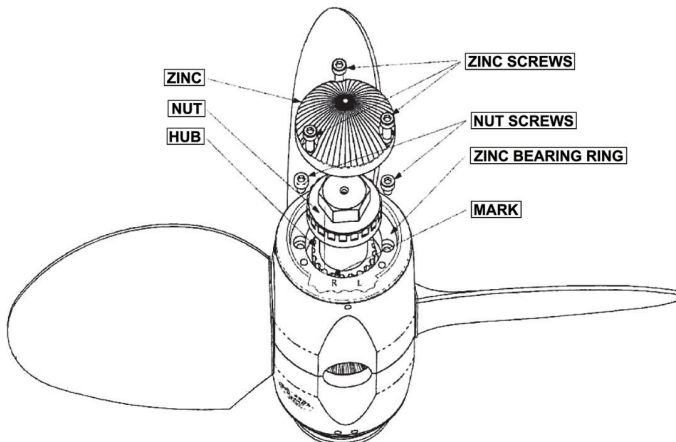

Fig. 5
- Then push the zinc bearing ring in its place again, making sure the “L” tooth aligns with the hub reference mark, you have left hand rotating propeller, or the “R” tooth if you have a right rotating propeller, as in Fig. 5.